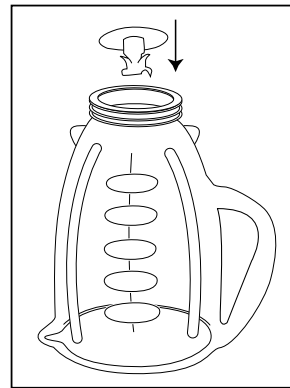

FIGURE 3
4. Place blade into jar. (Figure 3)